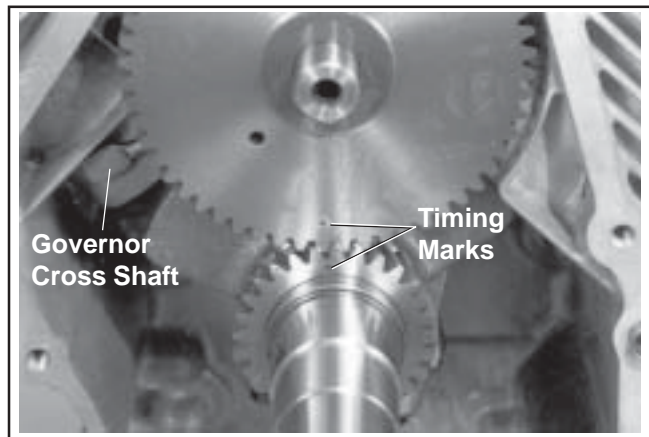

Figure 11-13. Aligning Crankshaft and Camshaft Timing Marks.
3. Turn the governor cross shaft clockwise until the lower end of the shaft contacts the cylinder. Make sure the cross shaft remains in this position while installing the camshaft. See Figure 11-13.
4. Slide the camshaft into the bearing surface of the crankcase, positioning the timing mark of the camshaft gear at the 6 o'clock position. Make sure that the camshaft gear and crankshaft gear mesh, with both timing marks aligned. See Figure 11-13.
4. Make sure the end of the governor cross shaft is lying against the bottom of cylinder 1 inside the crankcase. See Figure 11-13.